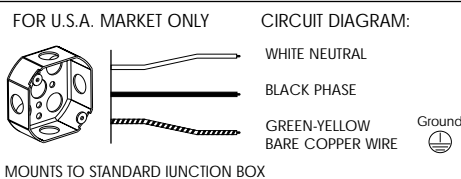
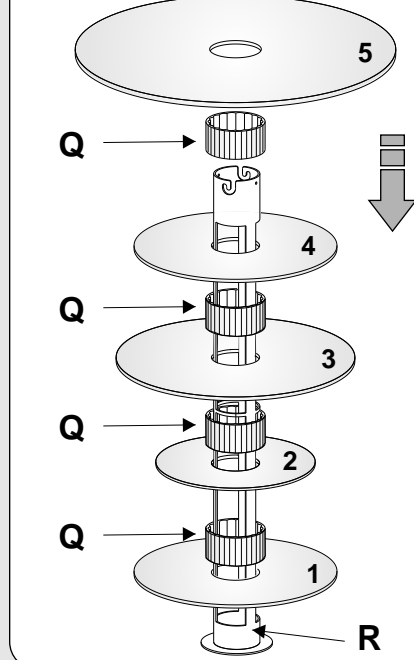

FIG. 4
FIG. 7
- Fig. 4** By keeping duly up the assembled body of the discs (**fig.4**), insert the block "P" with the bulb inside the structure "R", as shown: **Fig. 7/a** Insert right the side fittings of block "P" inside the hook slots of structure "R". **Fig. 7/b** Having carried out the hooking, secure well the two parts by the two prearranged side fittings.
- Adjust the fixture height definitively, see point n°. 4. Then slide the canopy "B" up to rest against the ceiling and secure it in position with the set screw "H". **PLEASE NOTE:** USE THE ALLEN WRENCH PROVIDED WITH THE CANOPY (**fig. 4**).